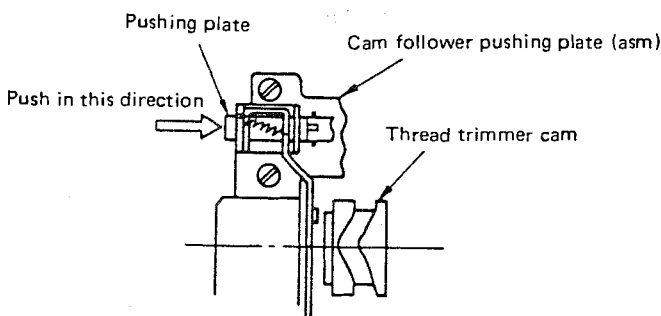

Fig. 30
3. After the adjustment, push the pushing plate in the direction of the arrow in Fig. 30 and turn the handwheel toward you to check that the requirements have been met. (Repeat this procedure several times to make sure.)
**(Caution)** When tightening screw ① to fix the rocking arm, make sure that there is no clearance at the surface of the hook driving shaft saddle.